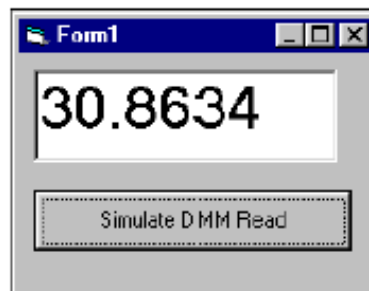

Figure 8. User Interface to Monitor DMM Values
2. Create a simple user interface on the Visual Basic form. Use a Measurement Studio NumEdit (CWNumEdit) control (or a Visual Basic text box) and a command button, as shown in Figure 8.